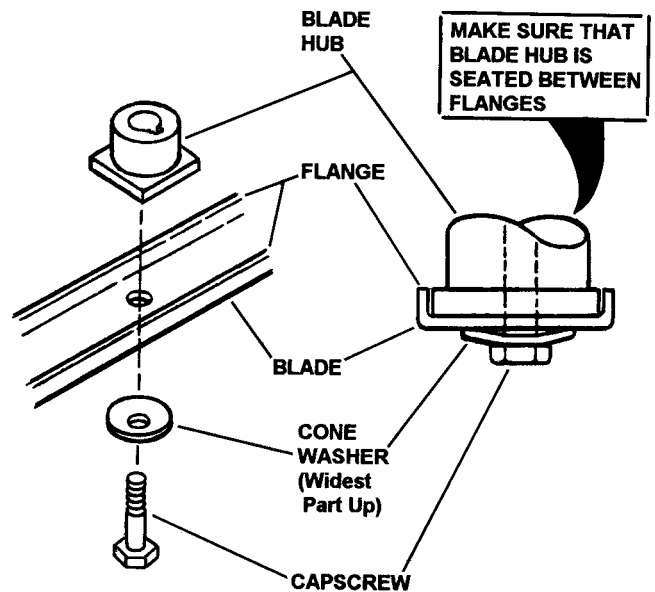

FIGURE 20
1. Remove the blade by removing the capscrew that secures it to blade hub. Refer to Figure 20.
4. Reinstall sharpened blade and related components as shown in Figure 20.